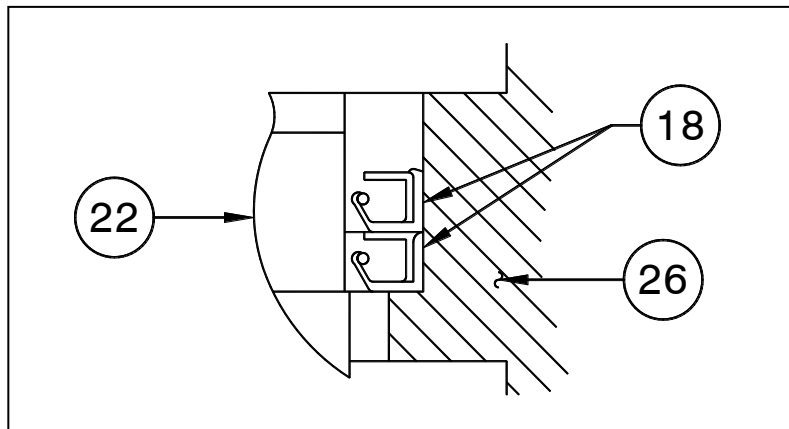

Figure 4.7c
- c. Remove the capscrews (23), connecting the worm housing (26) to the main drive (refer to Figure 4.7c).
- b. Install new oil seals (18) inside the worm housing (26), referring to Figure 4.7c. The oil seals must be installed as shown with the lips facing upwards.